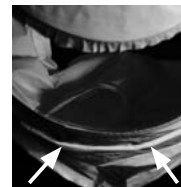

Figure 27
6. Ensure that the neck cuff is down below the chin and that the air outlets of the cuff (see Figure 27) are not restricted. If the neck cuff is not below the chin, then pull down before continuing (See Figure 27).
6. Ensure that the neck cuff is down below the chin and that the air outlets of the cuff are not restricted. If the neck cuff (see Figure 27) is not below the chin, then pull down before continuing (See Figure 28).